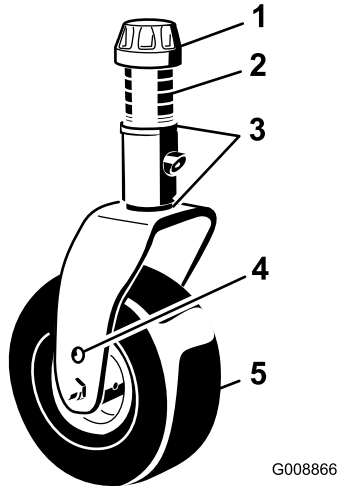

Figure 22
5. Remove the tensioning cap from the spindle shaft and slide the spindle out of the caster arm (Figure 22).